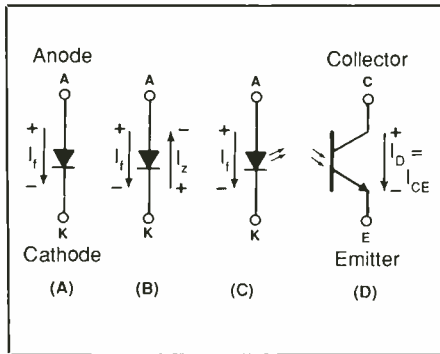

Fig. 4. Symbols and polarities: (A) rectifier diode; (B) zener diode; (C) light-emitting diode; (D) photo-diode.
- **Diode Tests.** Test low-power diodes in the SIG mode to automatically limit current flow. Test rectifier diodes in either mode. Figure 4 shows the symbols and polarities of volt-